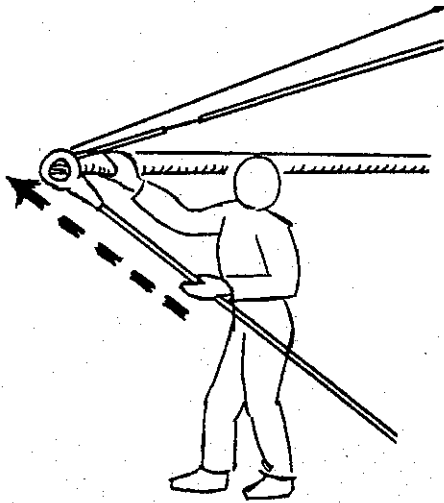

Figure 11-4.
4. Referring to **figure 11-4**, raise awning to desired height by extending main arm. Release snap stud and push outward on underside of roller-release snap stud so it will engage at desired height. Lean, so that body weight — rather than arm strength — carries out this step.